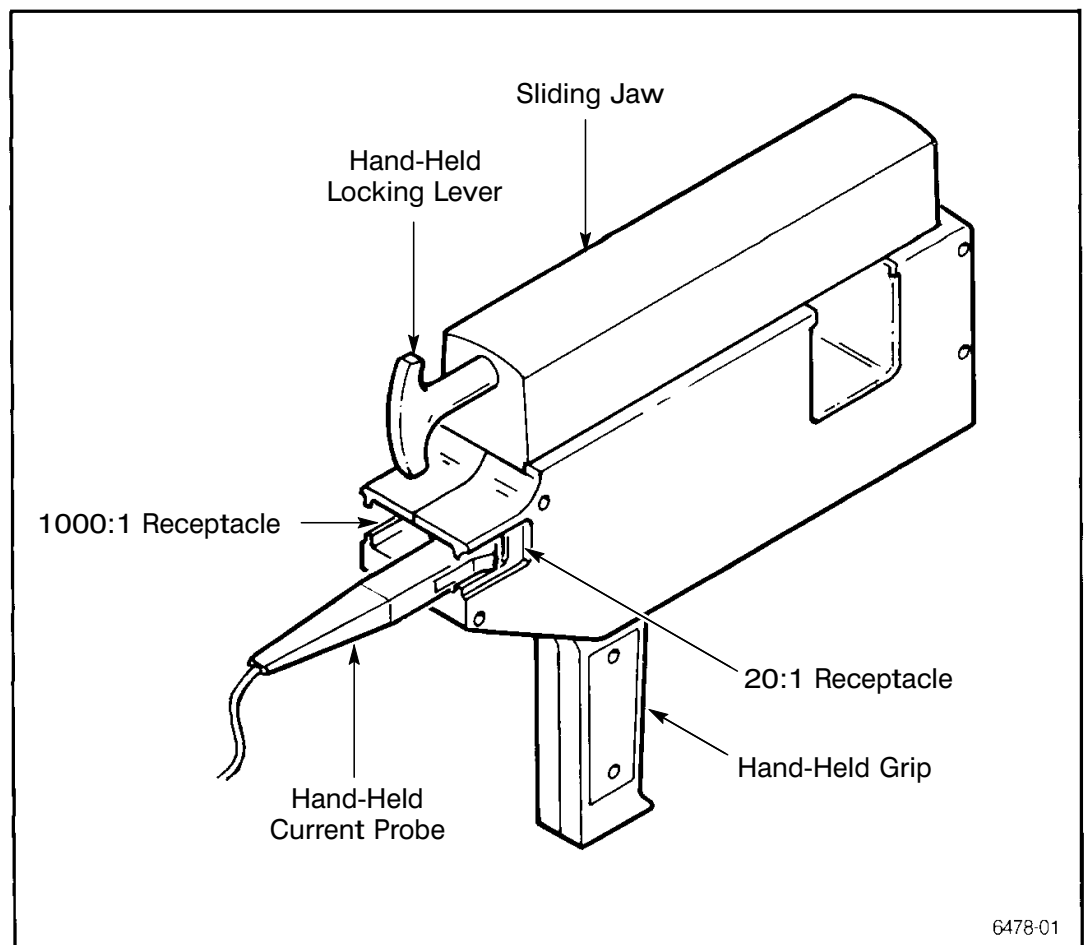

Fig. 2-1. The CT-4 with current probe attached.
At the rear of the CT-4 are two probe receptacles for two different current ranges. The A6302, for example, has a current range of 20 mA/div to 100 A/div in the 20:1 receptacle (assuming the current probe normal range is 1 mA/div to 5 A/div) and 1 A/div to 5,000 A/div in the 1000:1 receptacle. See Fig. 2-1.
4. Press the probe slider fully forward to ensure that the core is closed. See Fig. 2-1. Always insert the current probe so that the probe slider faces outward from the CT-4. This will ensure correct current polarity.
*When measuring bare conductors, touch the CT-4 and current probe at the “hand-held” areas only. Refer to Fig. 2-1*